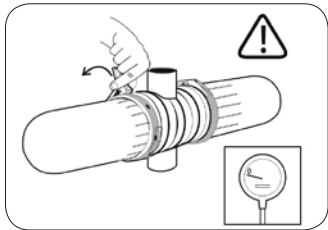

Figure 1
- Pull out the safety pin, open the clamp and remove the cover (Figures 1 and 2).